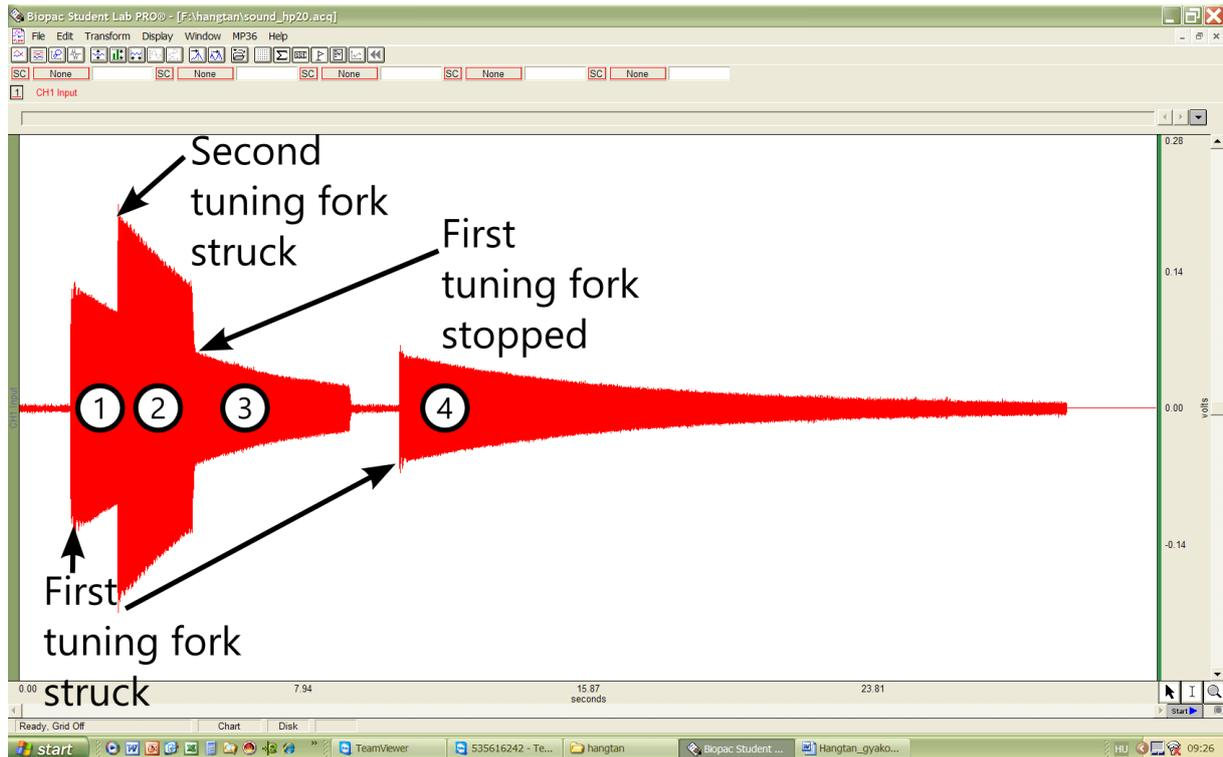

Figure 4. The structure of the recording.
In the intervals indicated in Figure 4: (1) only tuning fork 1 can be heard; (2) both tuning forks can be heard; (3) only tuning fork 2 can be heard; (4) only tuning fork 1 can be heard.